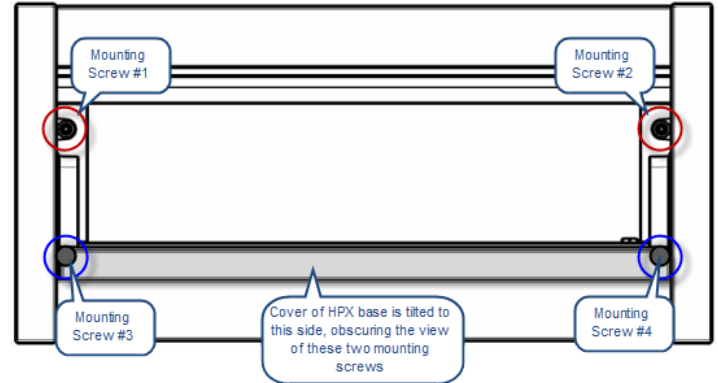

FIG. 10 HPX BASE ASSEMBLY (SHOWN MOUNTED) - MOUNTING SCREWS LOCATIONS
2. Loosen the four mounting screws located inside and at each end of the HPX base assembly (FIG. 10), to rotate the retaining tabs from under the mounting surface.